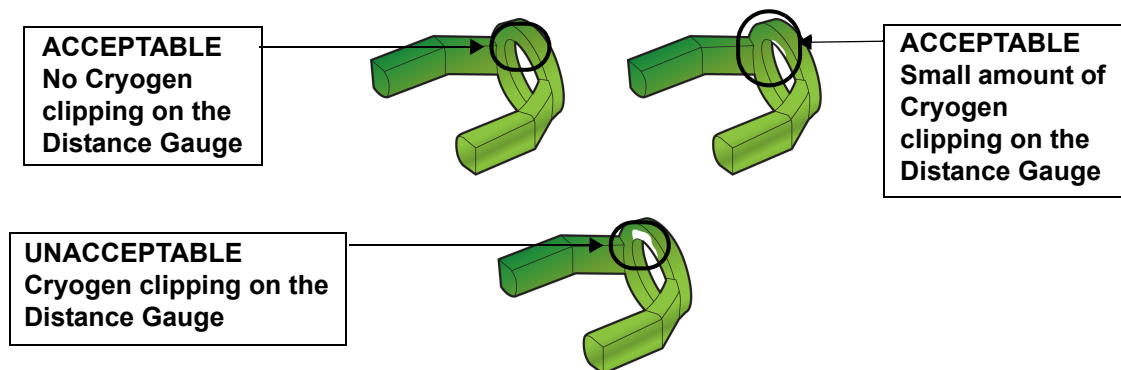

Figure 3-1: Cryogen Results: Acceptable and Unacceptable
- If the tests show acceptable alignment with the new Distance Gauge, contact Candela Technical Support to review results. See **Figure 3-1**.